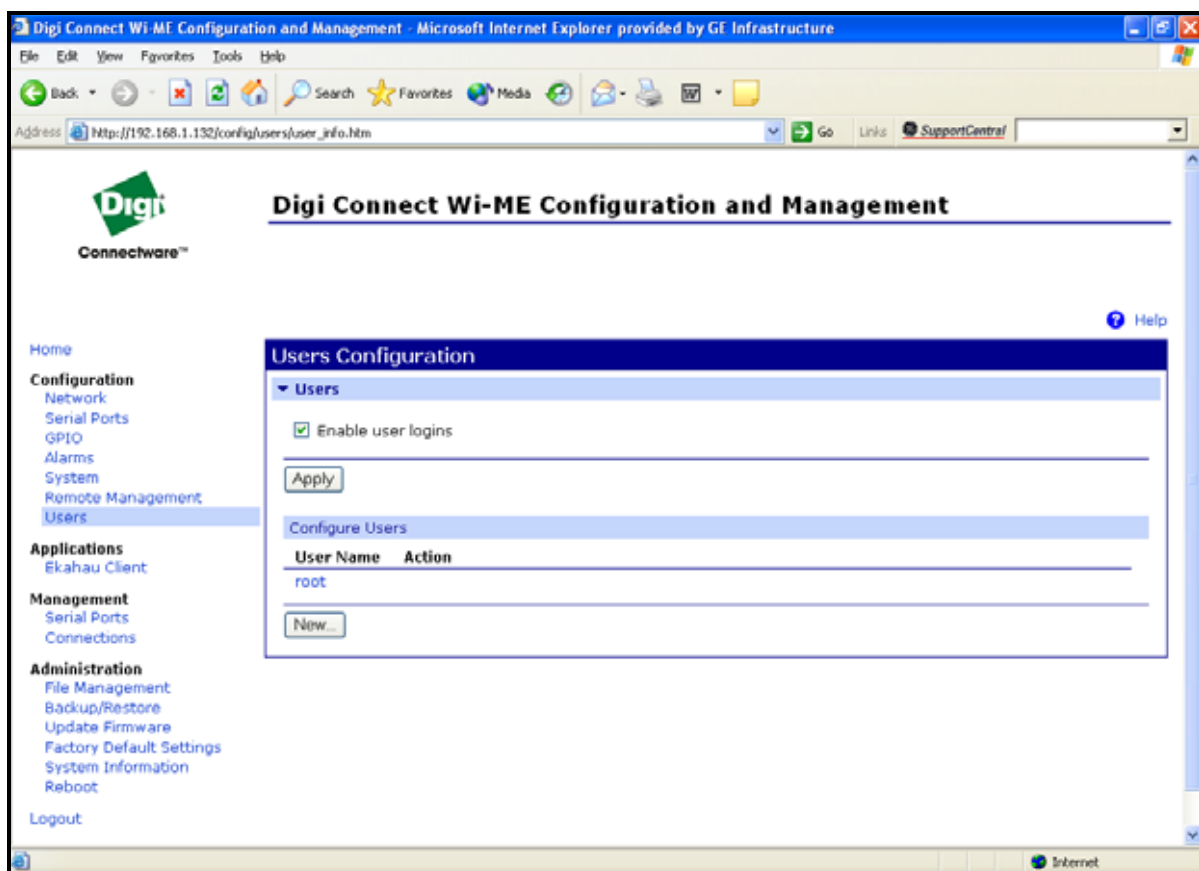

Figure 43: User's Configuration Menu
3. Click on **Login**. Figure 43 appears.